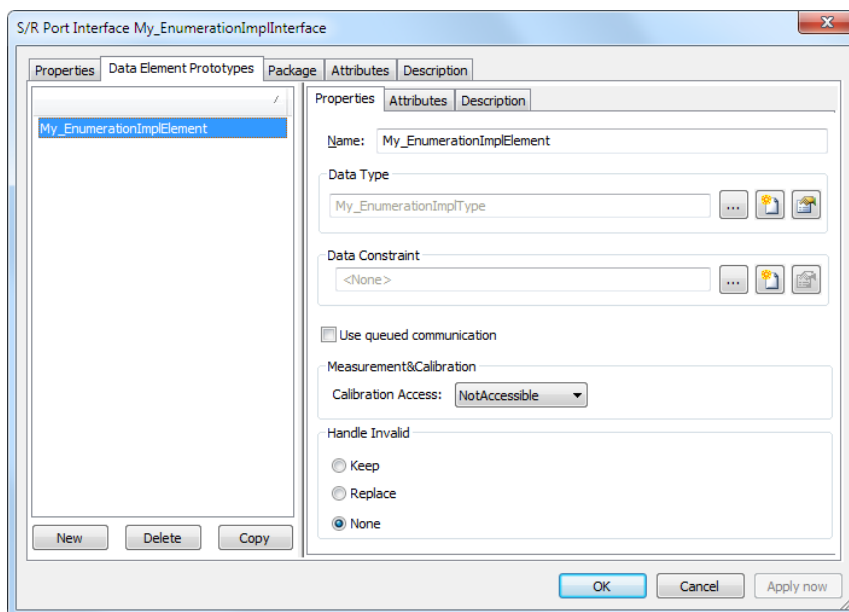

Figure 4-38 My_EnumerationImplInterface
- ▶ A sender/receiver port interface “My_EnumerationImplInterface” is created. It contains one data element of type “My_EnumerationImplType” (see Figure 4-38).